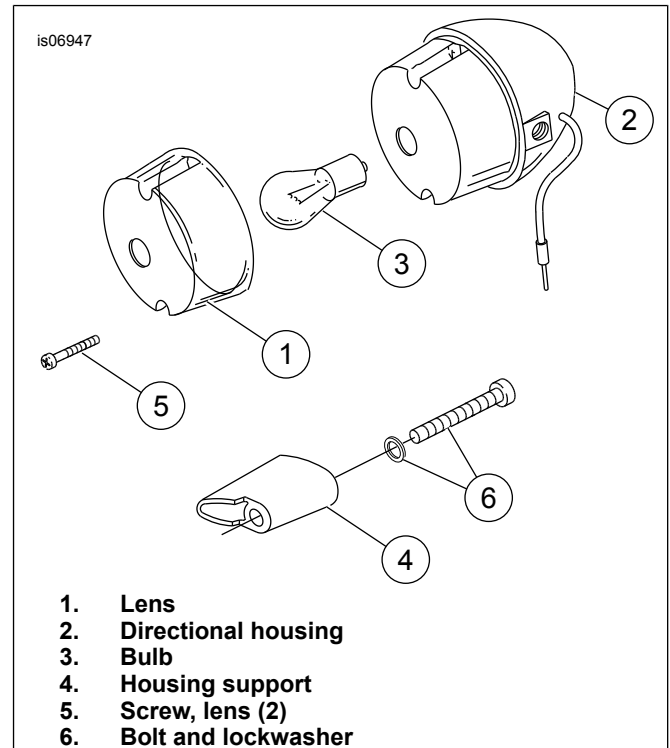

Figure 1. Remove Stock Stalk
1. See Figure 1. Remove lens (1) from rear turn signal housing (2). Remove bulb (3) from directional housing socket.